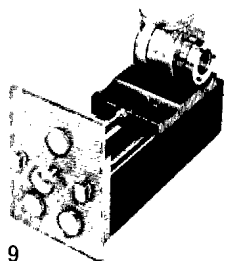
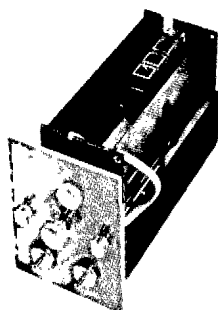

Fig. 9
Fig. 10
- a demountable cell of adjustable thickness (fig. 9), later described;
The front panel of the mounting is provided with two openings through which pass the water inlet and outlet (fig. 10). When the thermostatic device is not used, these openings are closed by screwed caps (fig. 9).
These cells are used singly or in pairs, without any intermediate holder and are automatically centered by the mounting tray described p. 6 (fig. 9). Their windows are of crystalline quartz, whose transmission is very high, even in the far ultra-violet.
0-10 mm adjustable thickness quartz cell (fig. 9).